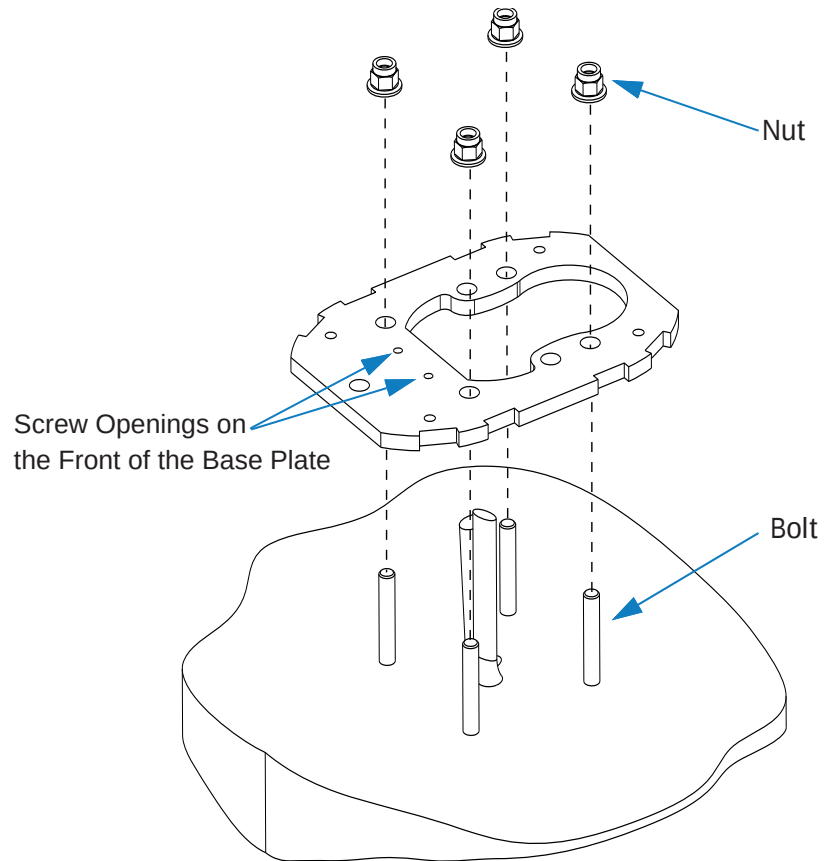

Figure 3-4 Fastening the Base Plate
The front side of the base plate can be distinguished by the two screw openings in front of the conduit opening as shown in **Figure 3-4**. The front side would be the closest side to the user if they were using the SV|51 front face.
Figure 3-4 highlights the four recommended bolt holes in blue. If the use of these bolt holes is not possible due to on-site conditions, the SV|51 can be fastened with only three bolts instead, using the three additional bolt holes in the base plate.
- Step 2** Use a wrench to secure the base plate on the concrete/floor plate by means of a nut for each of the four bolts as shown in **Figure 3-4**.